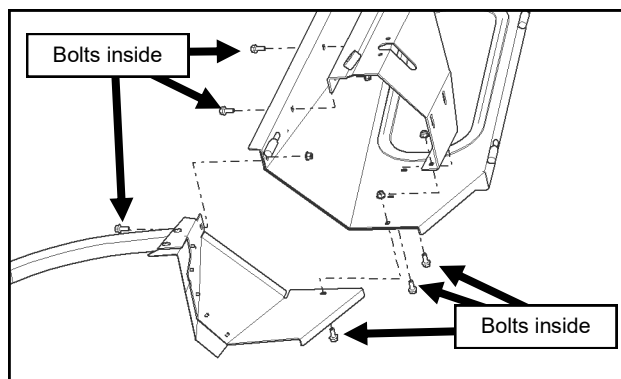

Fig. 4.1 (Assemble Contour to Rear Leg)
- 4.1** Away from the tractor, assemble the left Contour Assembly and left Rear Light Mount onto the left Rear Leg Assembly. See Figure 4.1. Install all bolts on the inside of the panel with nuts outside and centered in the slots.